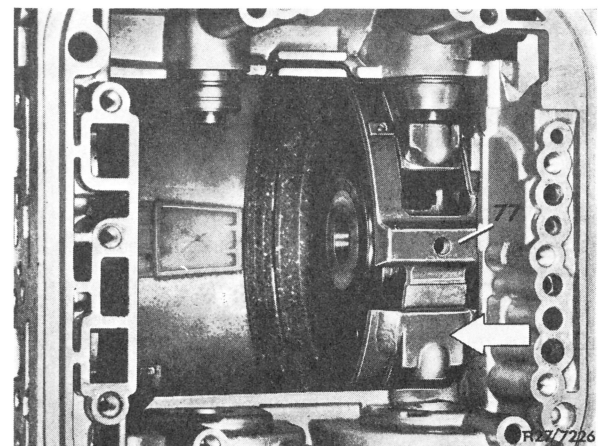

Fig. 14
**19** Remove brake band B 2 (77) from transmission case (Fig. 14).